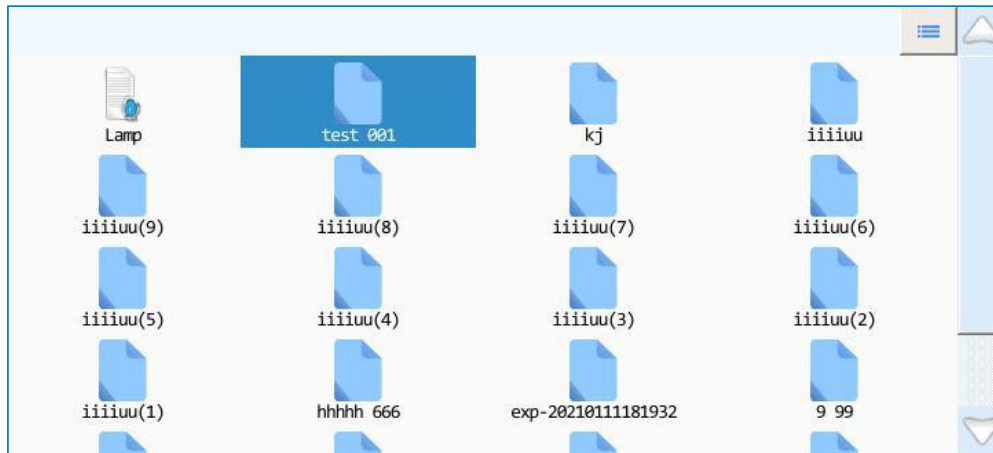

Figure 3.2b Experiment File Interface - Experiment file display area
- File Displaying Area:** display the pre-existed files within the instrument system, as shown in figure 3.2b